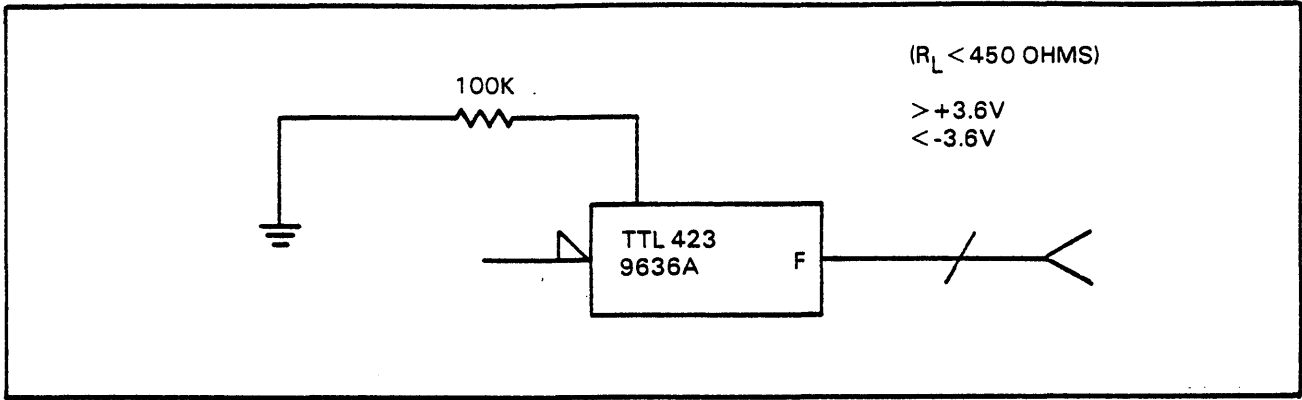
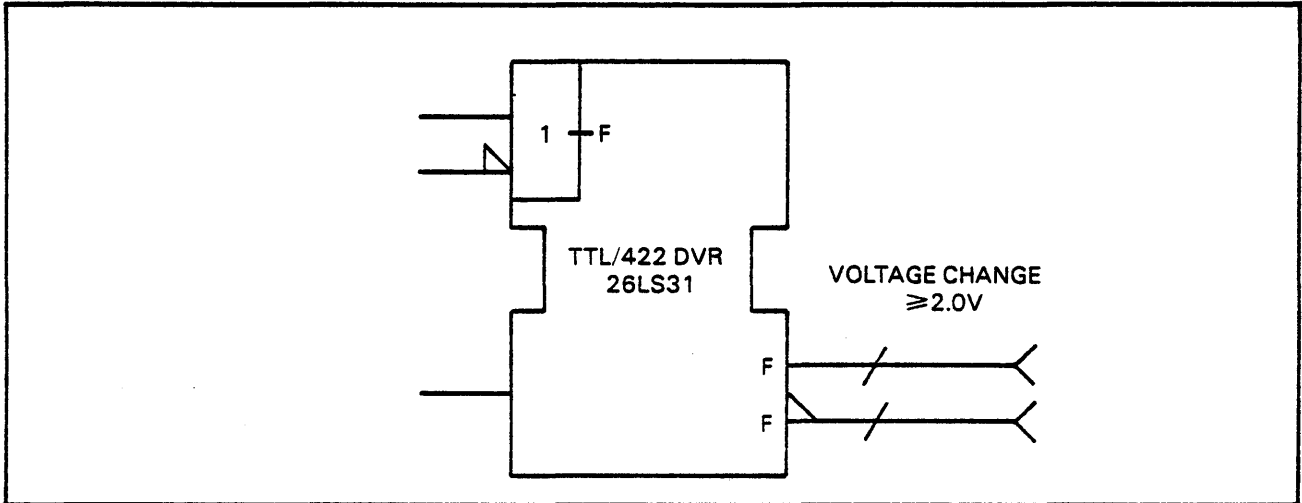

FIGURE 5-21. RS-423 TRANSMITTER
FIGURE 5-22. CATAGORY I RS-422 TRANSMITTER
The RS-422/423 I/O connector pc board is equipped with transmitters and receivers as shown in Figures 5-21 thru 5-23. All category I signals use isolated return pins at the printer end. In RS-423 single ended transmit mode, these returns are connected to the printer's Send Common (SC) line. All category II received signals Test Mode (TM) and Incoming Call (IC) use the Receive Common (RC) line as a common return in both RS-422 and RS-423 modes. In the RS-422 category I mode, the transmitter is as shown in Figure 5-22 and is balanced, differential with completely isolated, ungrounded returns. All category II signals (Remote Loopback (RL), Local Loopback (LL) and Secondary Request to Send (SRS)), require the RS-423 transmitters even though they may be used in an RS-422 environment.